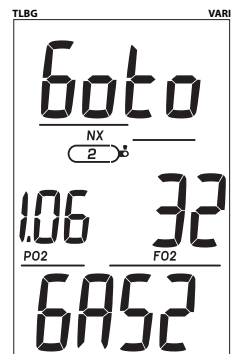

Fig. 60 - GAS SWITCH PREVIEW
**NORM Switch Preview**, information includes (Fig. 60):